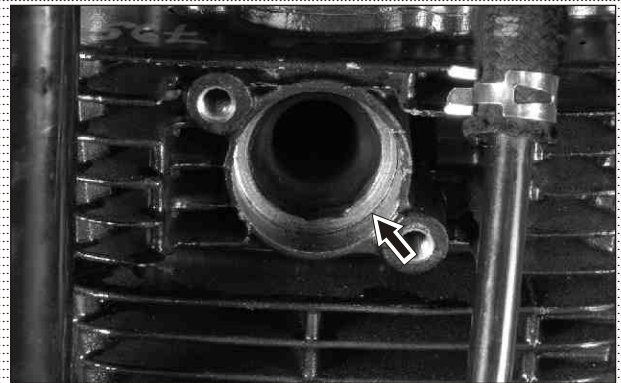

Fig. 3.39
- Take out gasket exhaust from the head complete cylinder. (Fig. 3.39)